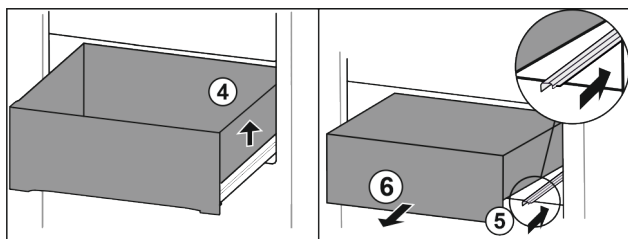

Fig. 91
- Lift drawer on the right. Fig. 91 (4)
- Insert right rail. Fig. 91 (5)
- Remove drawer to the front. Fig. 91 (6)